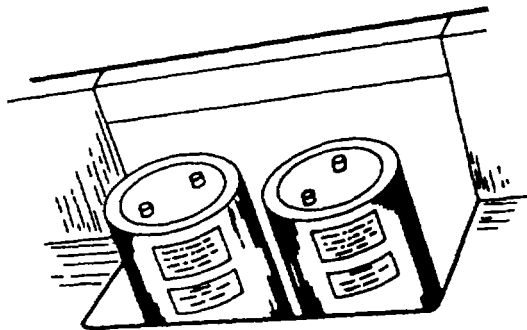

Figure 3-45. Purifier Cartridges
- a. Inspect purifier (figure 3-45) and separator block chambers for physical signs of damage. Check associated tubings and fittings.